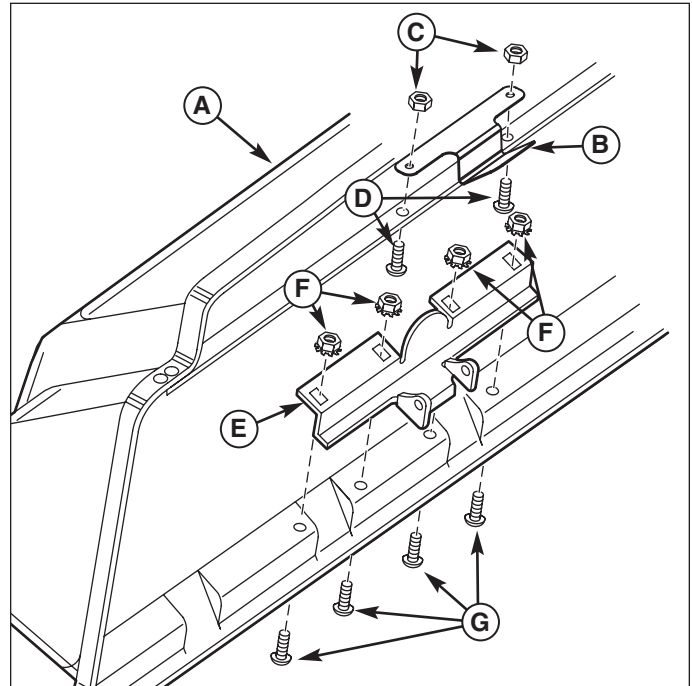

Figure 6. Install Latch & Hinge to Cover Assembly
1. Install the latch (B, Figure 6) to the cover assembly (A) securing with #10-24 x 5/8 screws (D) and #10-24 locknuts (C) as shown.
2. Install the hinge (E) to cover assembly securing with 1/4-20 x 1/2 screws (G) and 1/4-20 locknuts (F).